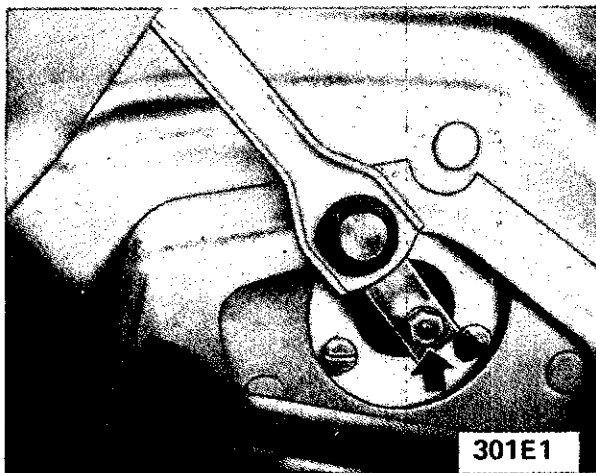

Figure 1E-1 Crank Arm Retaining Nut
1. Remove wiper blade (2).
2. Remove the wiper transmission retaining nut, washer, and rubber seal ring. See Figure 1E-1.